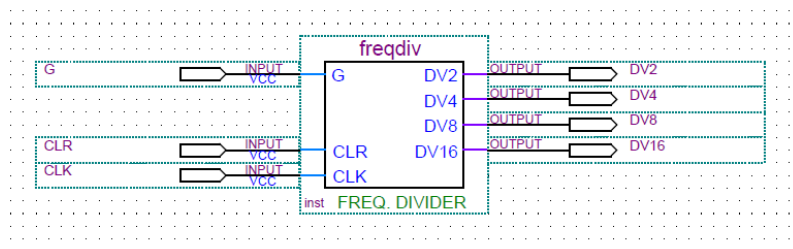

Figure 5
1. Write a *VHDL* file that defines an **8-bit counter (8-bit frequency divider)** by using the structure depicted in Figure 3 (vhdl) or LPM freqdiv (Figure 5), and compile the circuit. What is the frequency relation between the clock and eight outputs from an eight bit frequency divider, respectively?